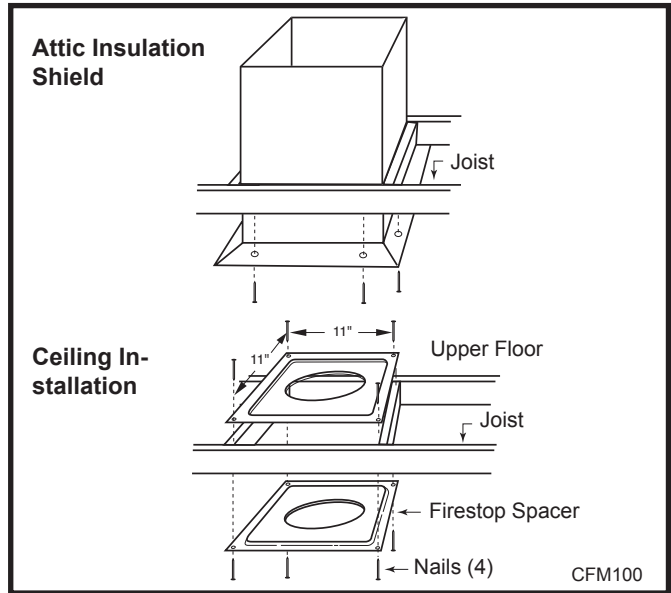

Fig. 32 Place firestop spacer(s) and secure.
6. Place firestop(s) #7DVFS or attic insulation shield #7DVAIS into position and secure. (Fig. 32)
If there is a room above ceiling level, firestop spacers must be installed on both the bottom and the top side of the ceiling joists. If an attic is above ceiling level a 7DVAIS (Attic Insulation Shield) must be installed. (Fig. 32)